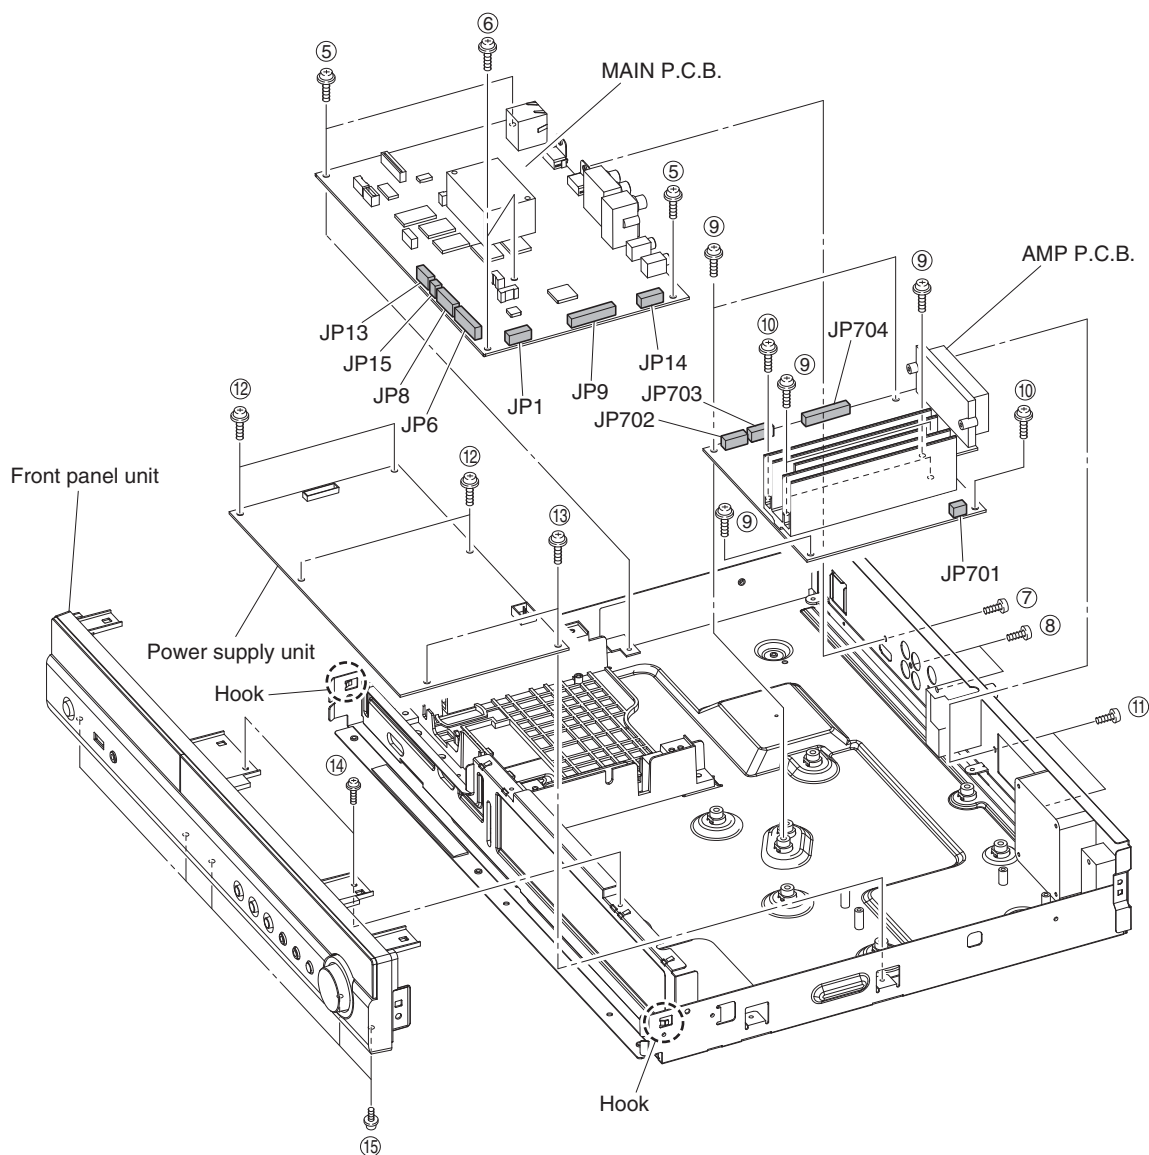

Fig. 4
- a. Remove 6 screws (⑨), 2 screws (⑩) and 2 screws (⑪). (Fig. 4)
- b. Remove JP701-704. (Fig. 4)
- c. Remove the AMP P.C.B. (Fig. 4)
- a. Remove 4 screws (⑫) and 2 screws (⑬). (Fig. 4)
- b. Remove CON1. (Fig. 4)
- c. Remove the power supply unit. (Fig. 4)
- a. Remove 2 screws (⑭) and 5 screws (⑮). (Fig. 4)
- b. Release 2 hooks and then remove the front panel unit. (Fig. 4)